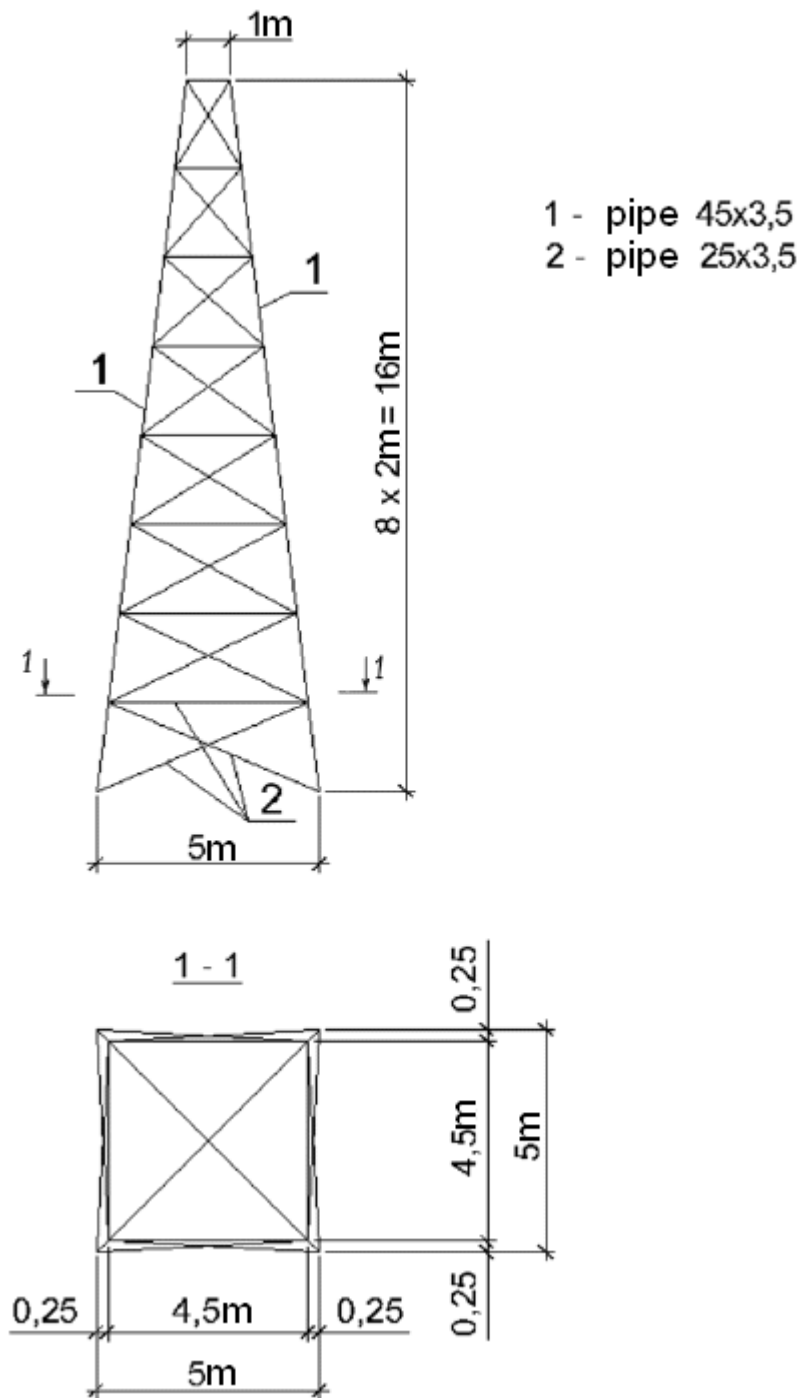
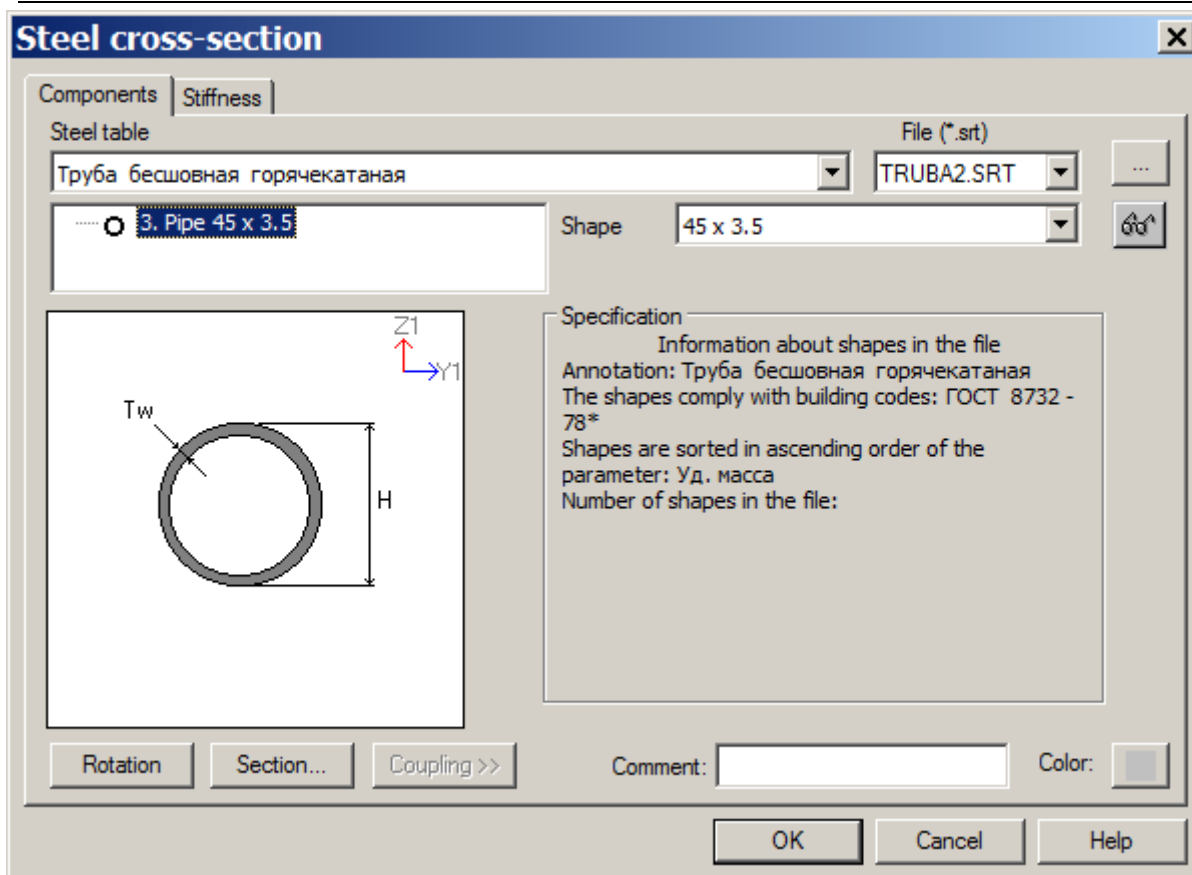

Figure 5.1 Model of tower
Figure 5.10 Steel cross-section dialog box
Model of the tower is presented in Fig.5.1.
Sections of elements of the tower (see Fig.5.1):
- ⇒ In the **Steel cross-section** dialog box (see Fig.5.10), specify the following parameters for pipe section (for main elements - element 1, see Fig.5.1):
- ⇒ In the **Steel cross-section** dialog box, specify the following parameters for pipe section (for elements of lacing - element 2, see Fig.5.1):